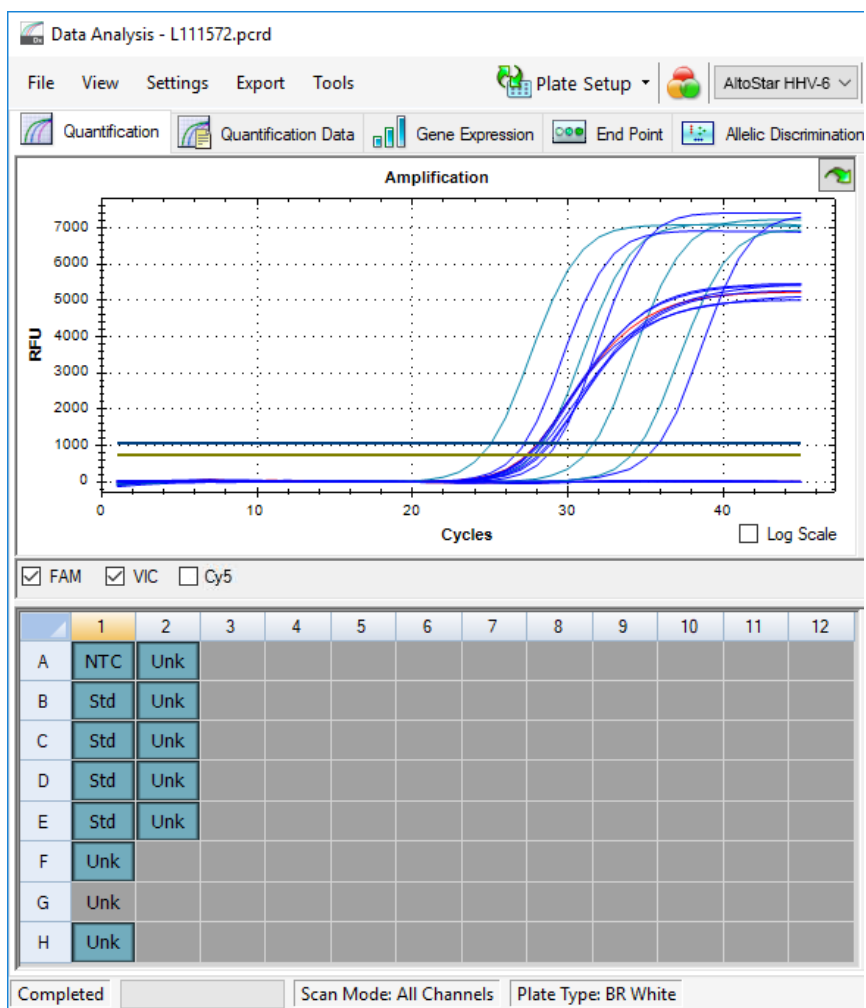

Figure 8: Data Analysis window: excluded well
4. The selected well is excluded from the analysis. No results will be generated for this well (see figure 8).